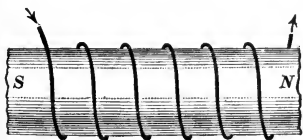

FIG. 27.
**31.** A magnet produced by inserting a magnetic substance into the magnetic circuit of a solenoid is an **electromagnet**, and the magnetic substance around which the current circulates is called the **core**. (See Fig. 27.) The solenoid is generally termed the **magnetizing coil**.